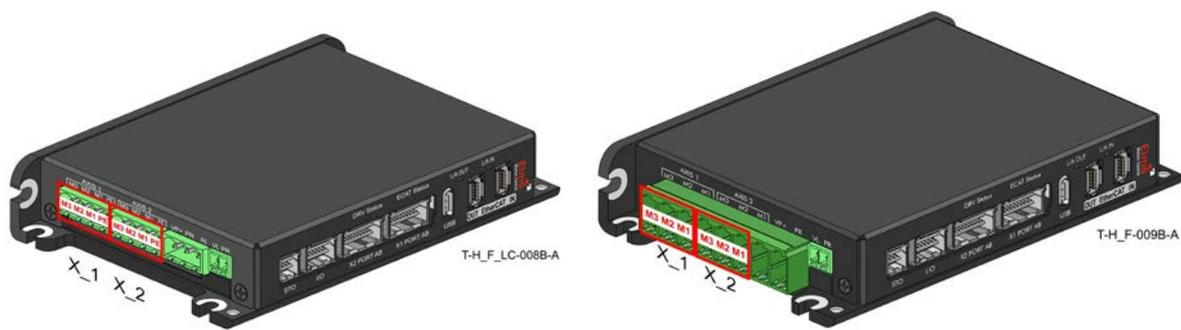

Figure 29: Connecting to the Motor Power
4. To connect two wires to the PE terminal, use a dual wire twin ferrule. Make sure not to bundle the wires. Figure 29 shows the terminals on the Titanium Falcon.